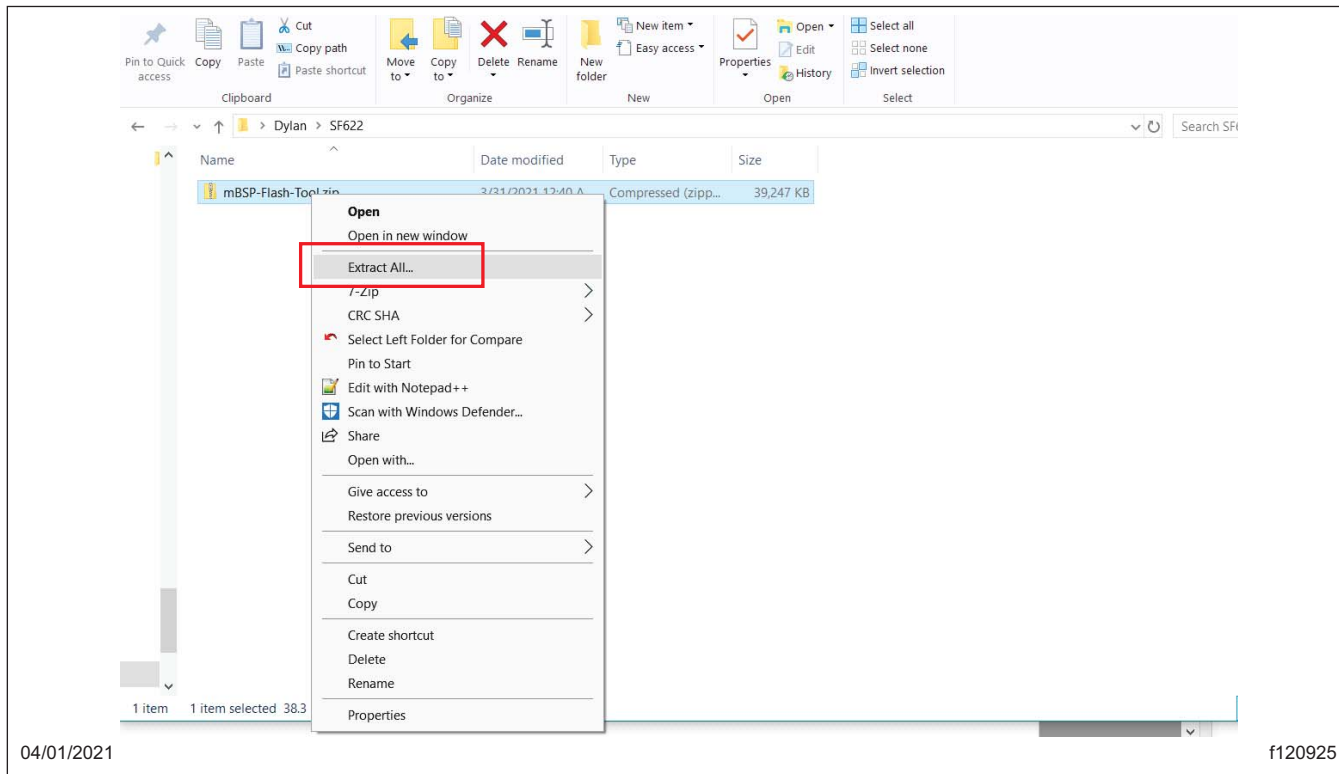

Fig. 3, Extracting the mBSP-Flash-Tool.zip File
6. Right click on the 'mBSP-Flash-Tool.zip' zip file and select 'Extract all.' See Fig. 3.